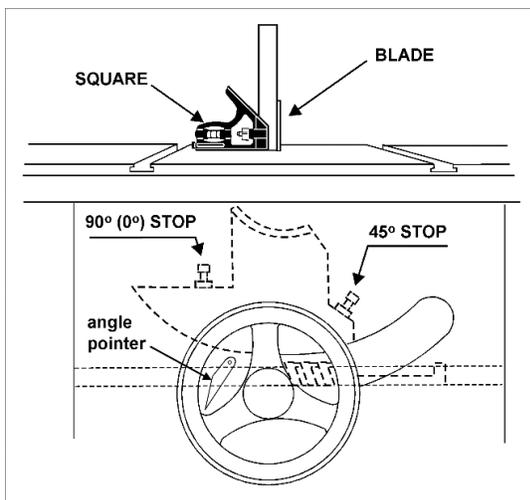

Figure 8-5
5. If adjustment is required, loosen nut on 90° stop screw (Figure 8-5) with 13mm wrench, and turn screw to proper height. Verify setting and retighten nut against trunnion.
6. Check pointer position on scale (Figure 8-5). If needed, loosen screw and adjust pointer to zero. Retighten screw.
Adjust 45° stop shown in Figure 8-5. Confirm setting, then retighten nut.